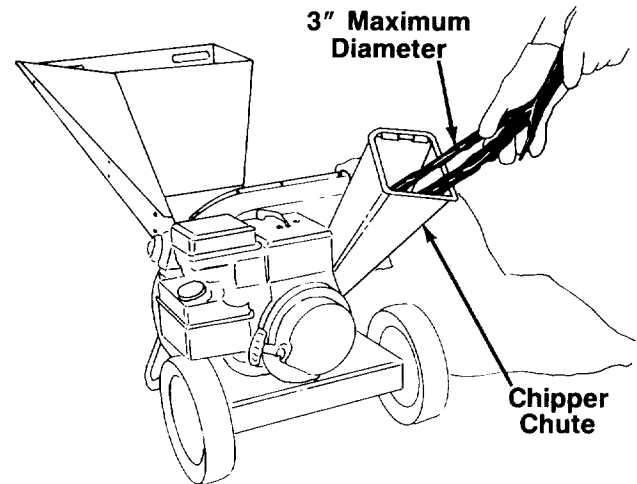

FIGURE 14.
- Bulky material, such as stalks or heavy branches, **up to 3" in diameter**, should be fed into the chipper chute. See figure 14.